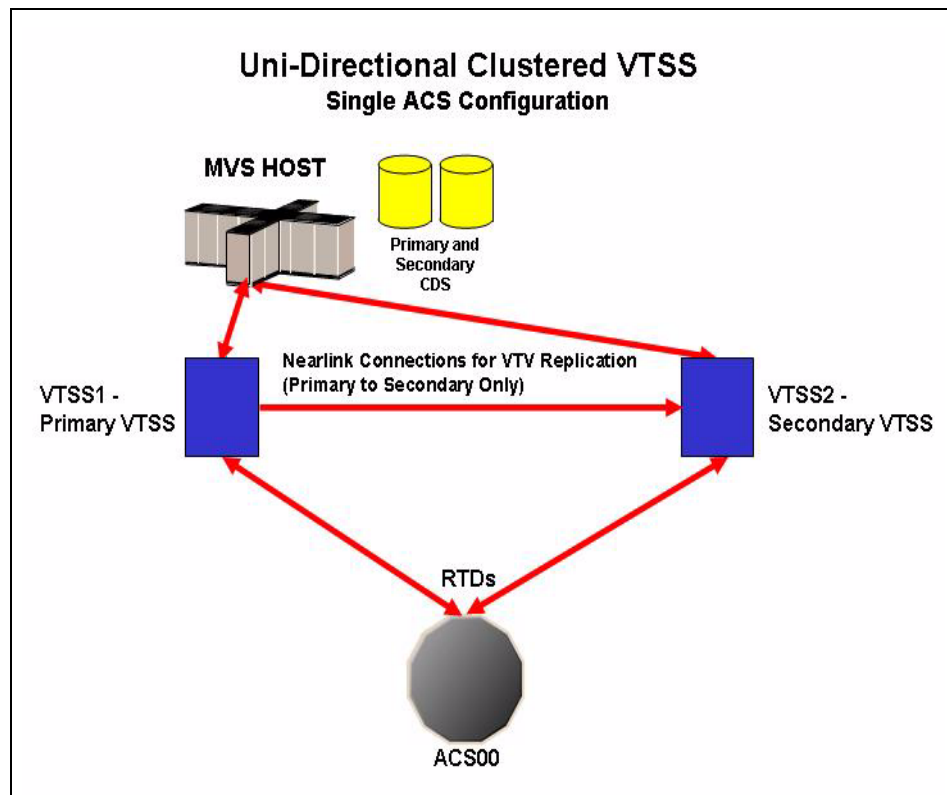

FIGURE 9-2 Uni-Directional Cluster attached to a Single ACS
- *Uni-Directional Clusters*, which consist of a *Primary VTSS* and a *Secondary VTSS* connected by one or more cluster links (CLINKs). FIGURE 9-2 shows a Uni-Directional Cluster attached to a single ACS. The CONFIG CLUSTER statement defines the Cluster, and the CONFIG CLINK statement(s) define this the Cluster as Uni-Directional.